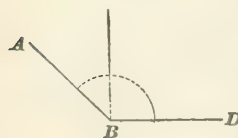

FIG. 10.
28. An **obtuse angle** is greater than a right angle. ABD (Fig. 10) is an obtuse angle.